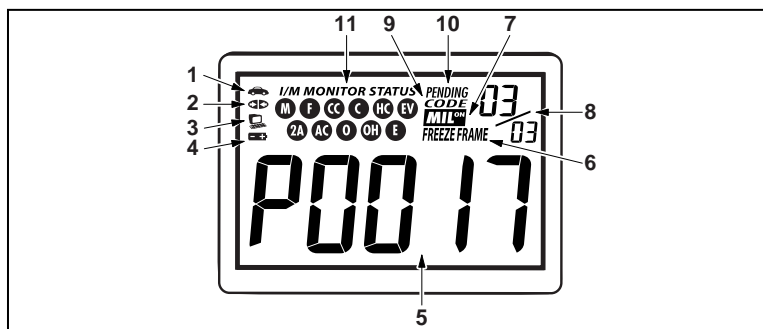

Figure 2. Display Functions
See Figure 2 for the locations of items 1 through 13, below.